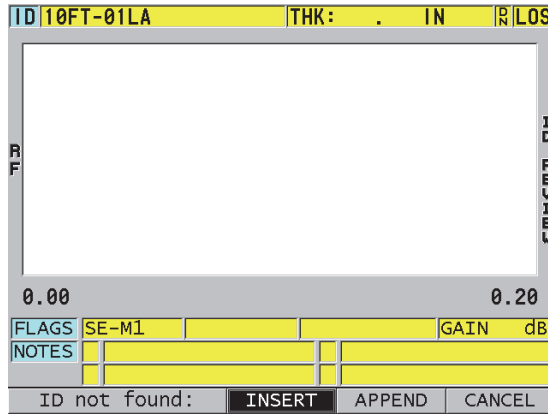

Figure 11-29 The message when the edited ID is not in the database
6. When the edited ID is not in the database, the help text bar message shown in Figure 11-29 on page 221 appears, select **INSERT** to insert the new ID before the active ID.